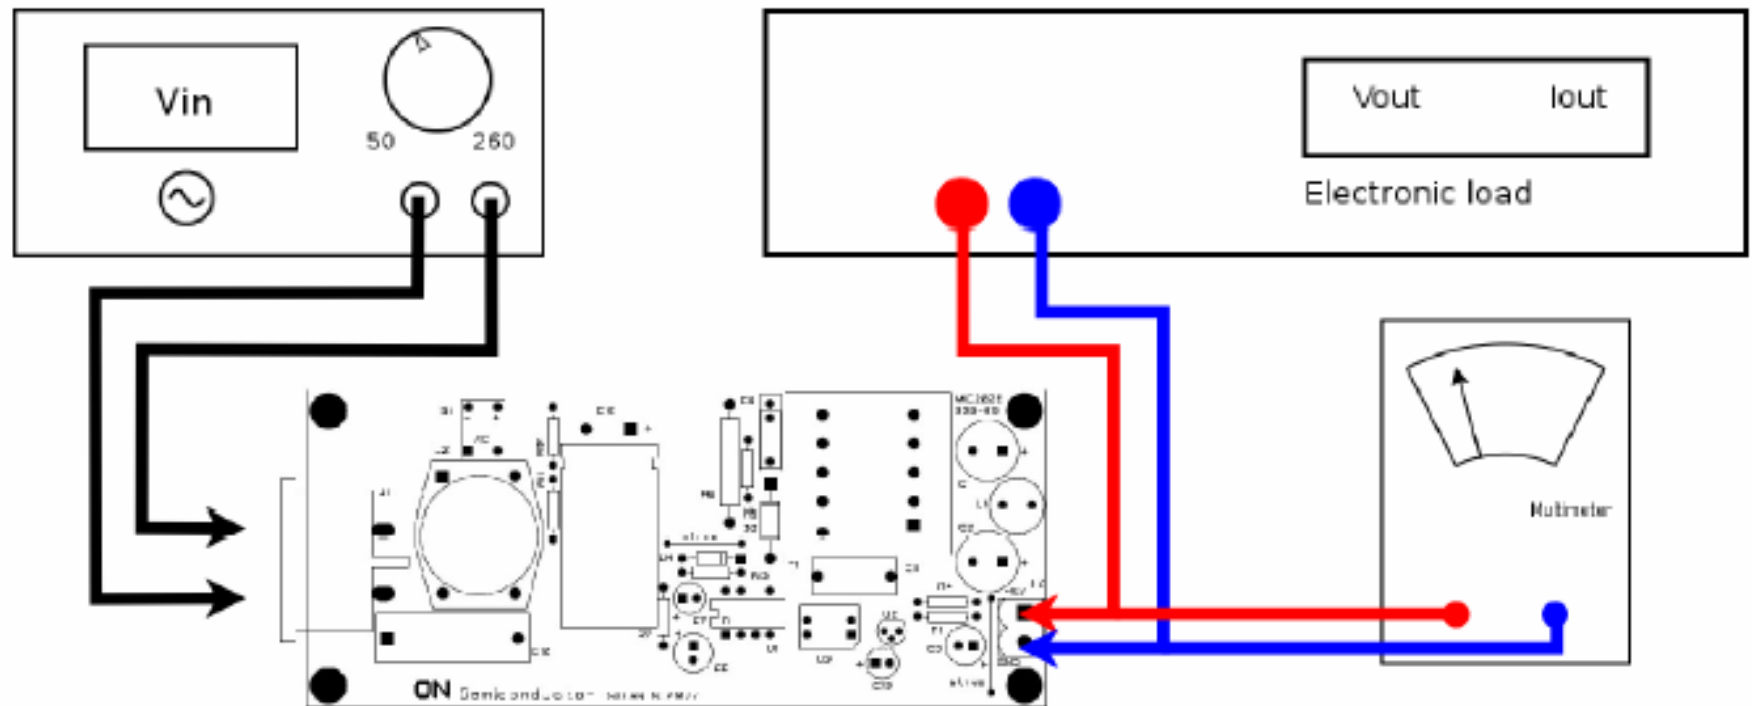

Figure 1: Test Setup
- 1. Connect the test setup as shown in Figure 1.**